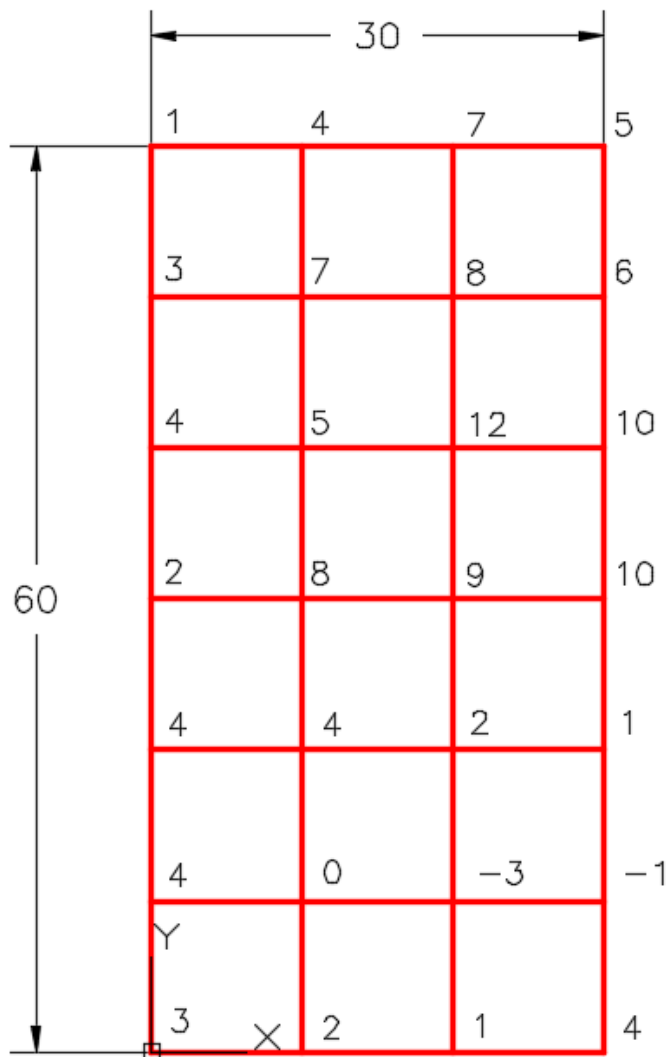
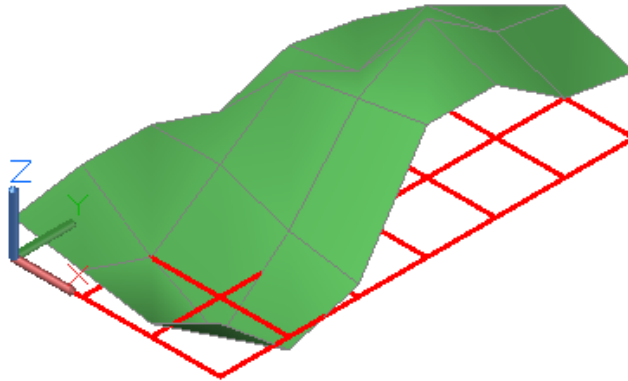

Figure Step 1B
Figure Step 2
Step 2 On layer: Surface 2, draw a 3D mesh on the grid using the 3D MESH command. The Z values are displayed at each vertex in Figure Step 1B. Set the current visual style to Realistic. It should appear as shown in the figure. (Figure Step 2)